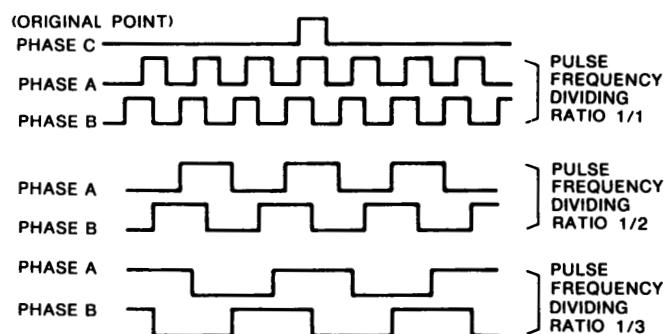

Fig. 6.12 Output Waveform of Optical Encoder
(4) Pulse resolution
The pulse frequency of the PG can be further divided by using the divider in the SERVOPACK. The phase relation is the same as in (3), above. Set the pulse frequency dividing ratio according to Table 6.1. Fig. 6.12 shows the optical encoder output waveform under the dividing pulse frequency.